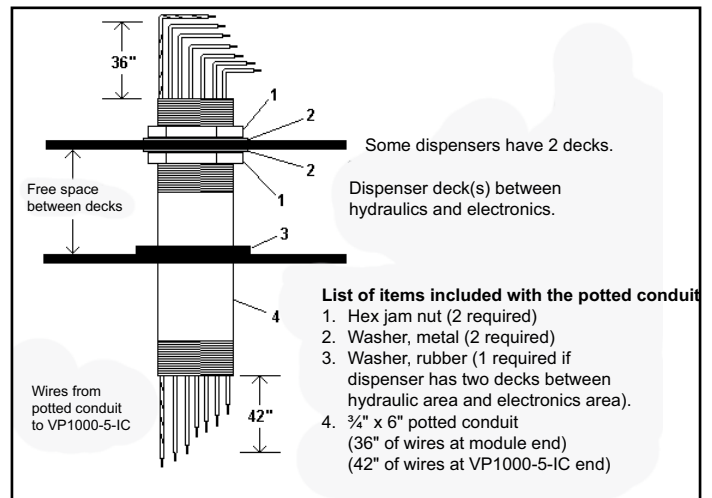

Figure 9: List of items Included with Potted Conduit
4. Remove the top hex nut and washer from the potted conduit assembly. Guide the assembly through the knock-out, replace the washer, and thread the hex nut back onto the assembly, and hand-tighten the assembly into place. If the dispenser has dual vapor barriers, the rubber washer is installed on the top side of the lower deck. (See Figure 9)